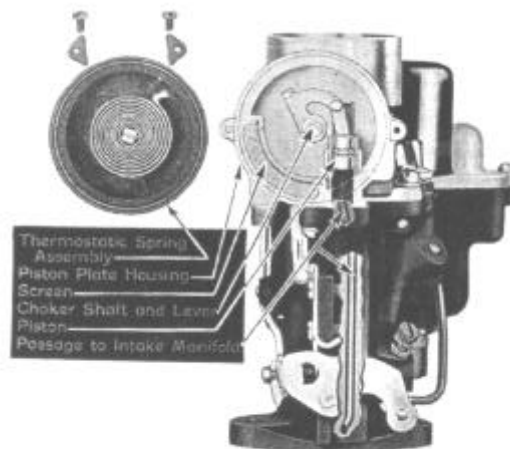

Figure 411
(43) Remove both cover attaching screws and housing retainers, to remove thermostatic coil and housing assembly (Figure 411).
(44) Remove strainer screen (Figure 411).